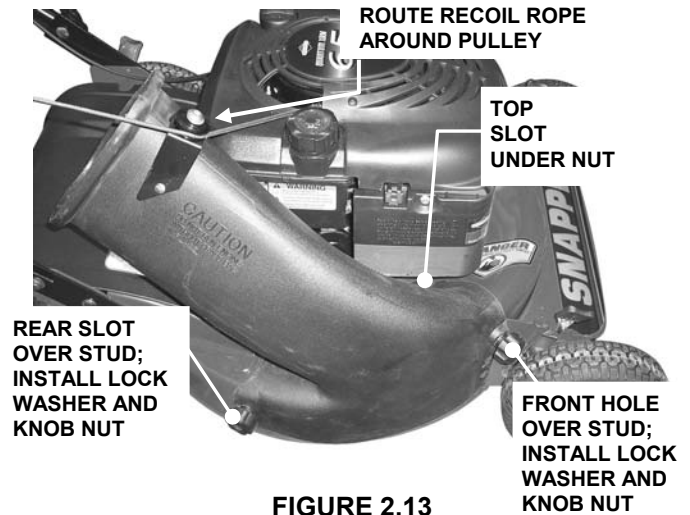

FIGURE 2.13
STEP 2: Install grass bag adapter to the deck in place of recycling cover, making sure that: 1) front hole on outside front of adapter fits over stud where front of recycling cover was originally secured, 2) slot on top of adapter slips under restraining nut on top of deck (under right front corner of engine), and 3) slot on bottom rear of adapter slips onto stud behind rear of discharge opening, where rear of recycling cover was originally secured. Install internal/external tooth lock washers and knob nuts onto studs and tighten securely. See Figure 2.13.
STEP 3: Route recoil rope around outside of rope guide pulley. See Figure 2.13. (NOTE: Recoil rope may need to be slackened. Refer to "Handle Assembly".)